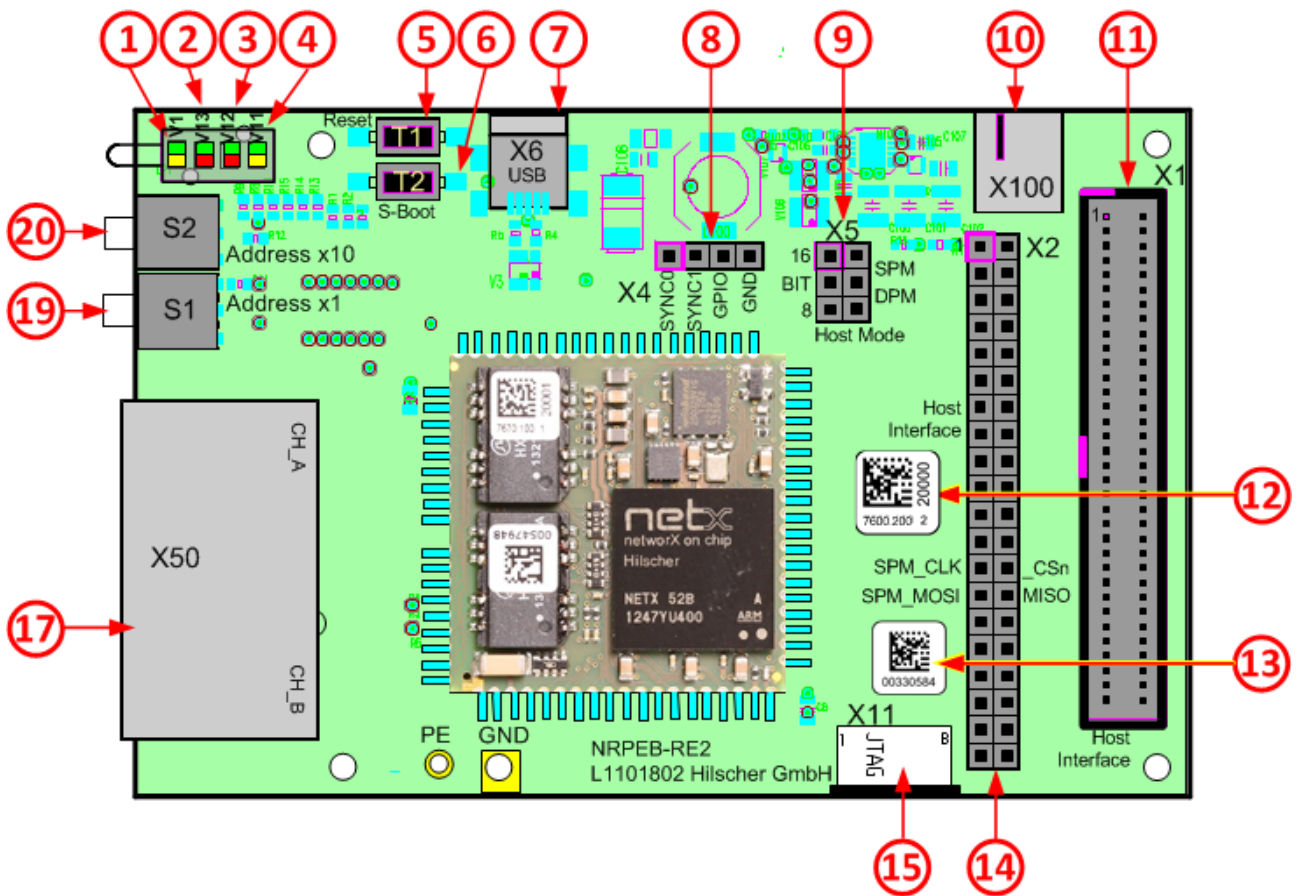

Figure 22: Evaluation Board NRPEB 52-RE
- Figure 22 on page 51 for NRPEB 52-RE.